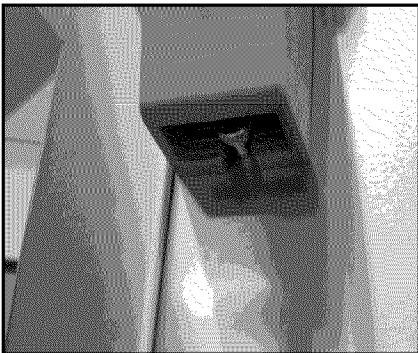
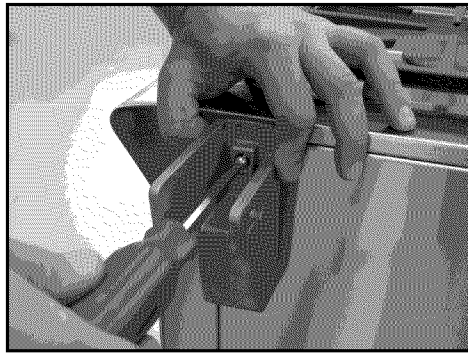

Fig. 46
Fig. 47
2. Slide left and right side shelf brackets over the shoulder bolt (Fig. 46) and install top screw attaching the side shelf brackets onto the cart (Fig. 47). Tighten with Phillips screwdriver.